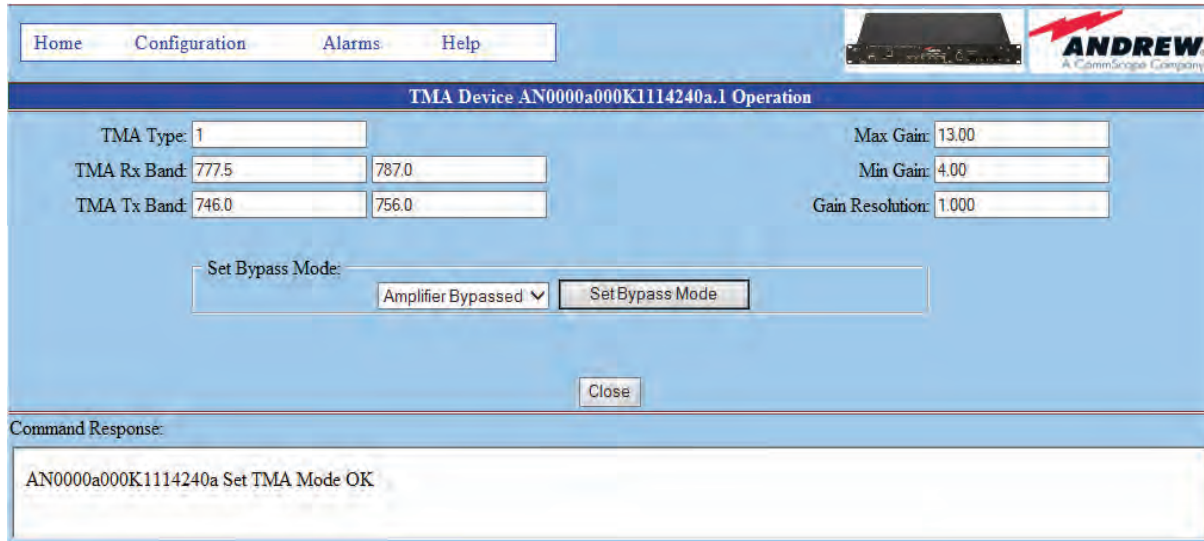

Figure 23-12. TMA Operating Mode has successfully been changed.
- After the TMA has changed its operating mode, the new mode is displayed in the mode field. (Figure 23-12).